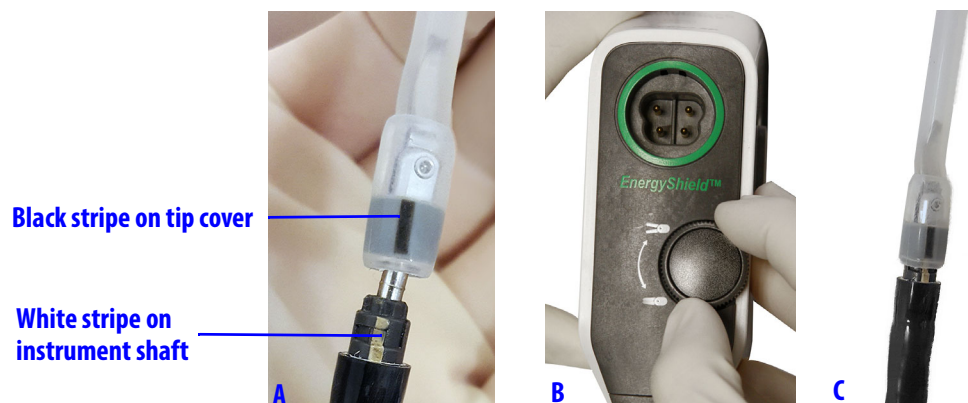

Figure 5.6 Align stripes (A), then rotate Grip Release Dial to retract pin into shaft (B and C)
4. Rotate the installation tool to align the black stripe on the tip cover to the white stripe on the instrument shaft, then rotate the Grip Release Dial counter-clockwise until the pin is fully retracted into the instrument shaft (Figure 5.6 A, B, and C).